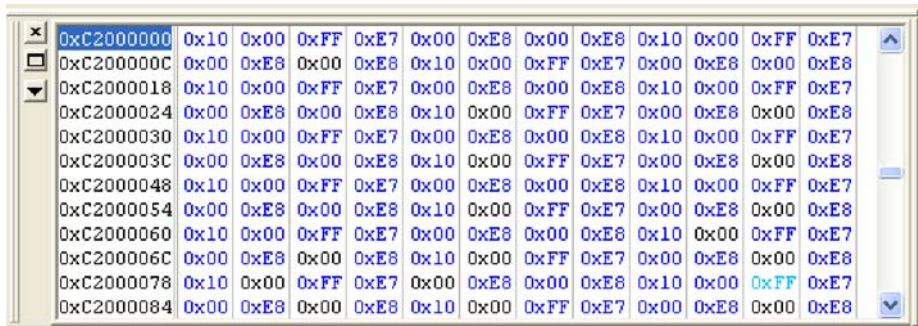

Figure 5-67. RealView Debugger Memory Window
11. Right-click one of the <<NoAddr>> values in the RealView Debugger Memory window and select **Set Start Address**. Enter the value **0xC2000000**. The Memory window will now display the memory segment contents beginning with the aforementioned address, as shown in Figure 5-67.